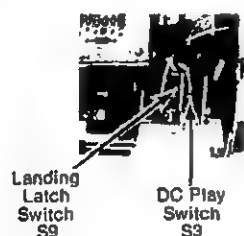

Fig. 3-6. DC Play Switch Cam
2. Loosen allen head set screw (.050") in S3 cam (item 71) and position cam so that switch S3 is "on" and tighten set screw, Figs. 3-6 & 2-13.